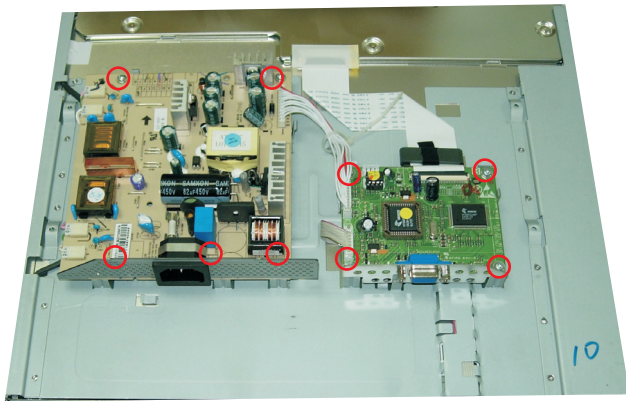

Fig.13
- Disconnect the 1505,1502,1413 and 4 backlight cables as shown in Fig.13